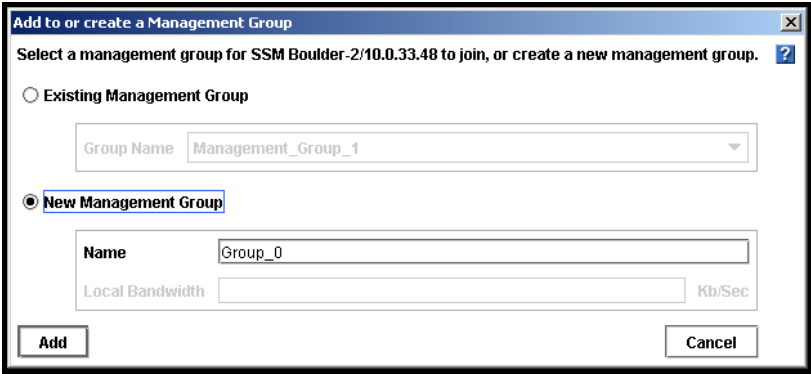

Figure 129. Creating a New Management Group
- 3. Click the Tasks button and select Add to New or Current Management Group. The Add to or create a Management Group window opens, shown in Figure 129.